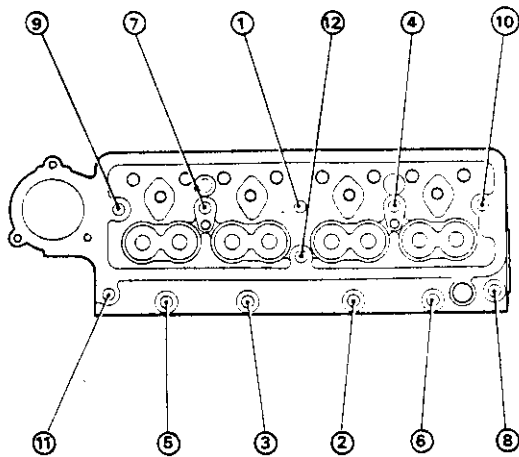

Figure 15 Cylinder head nuts tightening sequence
2. Replace the valve guides in the cylinder head using special tool R 7478 (Figure 15).